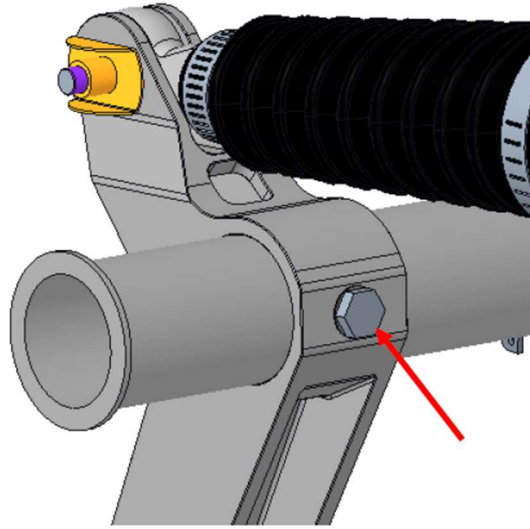
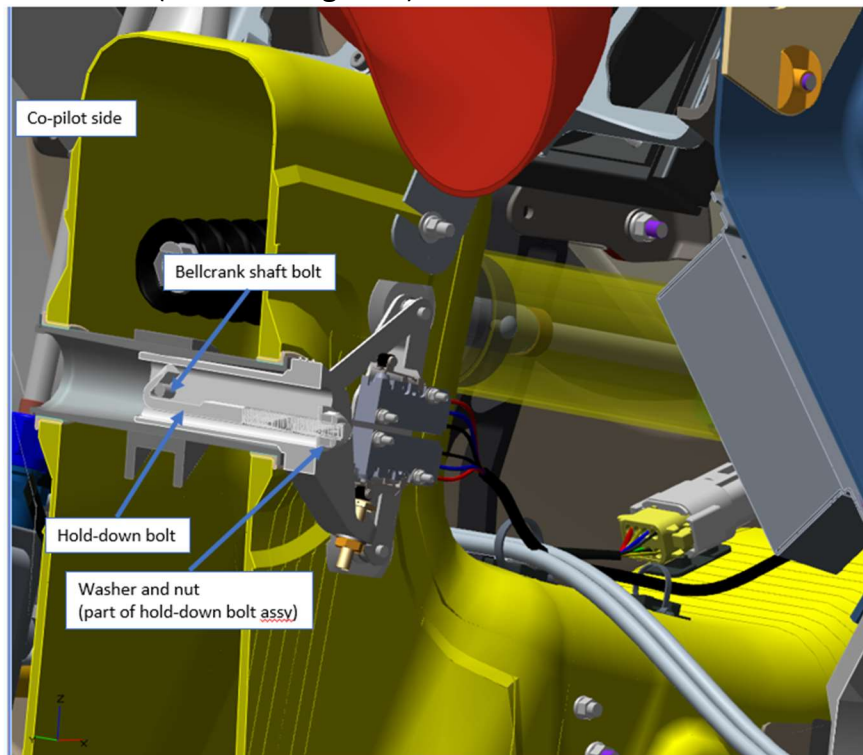

Figure 6. NLG Bell crack Shaft bolt
Figure 9. Cross-section view of installed bracket
- Preinstall the new retrofit Limit Switch Bracket sub-assembly into the bell crank shaft. Orient the assembly so it slides over the bell crank shaft bolt shown in **Figure 6**.
10. Insert ICA015837 Limit Switch Retrofit Bracket into the bell crank shaft, orient it so it slides over the bell crank shaft bolt shown in **Figure 6** above. Remove zip-tie from hold down bolt assembly, remove and retain the washer and nut. Insert hold down bolt from co-pilot side of NLG box, and secure with 1 each retained washer and 1 each locking nut (95615A120) on the pilot side of the NLG Box. Torque to 17±2 in-lbs. (Reference **Figure 9**)